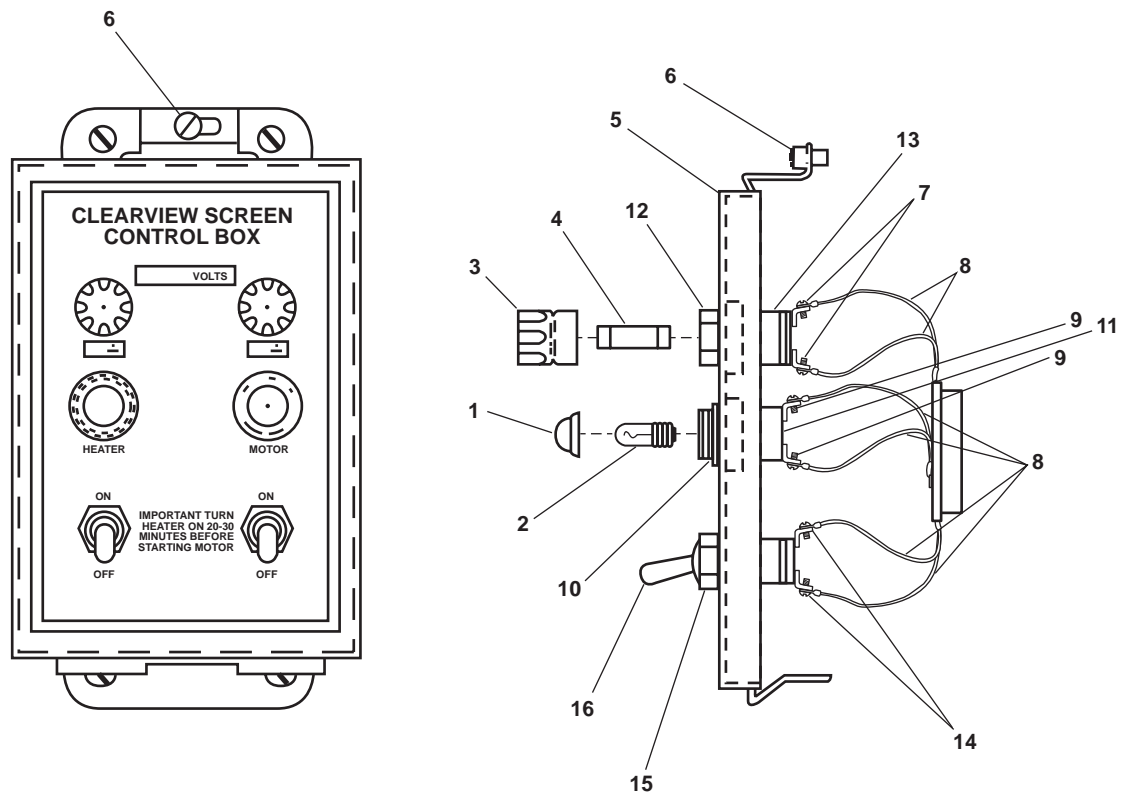

Figure 1. Clearview Screen Control Box
1. Remove the protective lens cover (figure 1, item 1).
2. Remove the lamp (figure 1, item 2).
1. Install the lamp (figure 1, item 2).
2. Install the protective lens cover (figure 1, item 1) finger tight.
1. Remove the fuse holder (figure 1, item 3).
2. Remove the fuse (figure 1, item 4) from the fuse holder (figure 1, item 3).
1. Install the fuse (figure 1, item 4) in the fuse holder (figure 1, item 3).
2. Install the fuse holder (figure 1, item 3) with the installed fuse (figure 1, item 4) in the control box (figure 1, item 5).
2. Loosen the captive screw (figure 1, item 6), and open the control box (figure 1, item 5).
3. Use a multimeter to check for the presence of voltage at the fuse holder assembly terminals (figure 1, item 7). If voltage is present, verify that the correct circuit breaker is set to OFF, locked out, and tagged out (55-502). If no voltage is present, proceed with the procedure.
4. Label and remove the wiring (figure 1, item 8) from the lamp assembly terminals (figure 1, item 9).
5. Remove the retaining nut (figure 1, item 10) and remove the lamp housing assembly (figure 1, item 11) from the control box (figure 1, item 5).